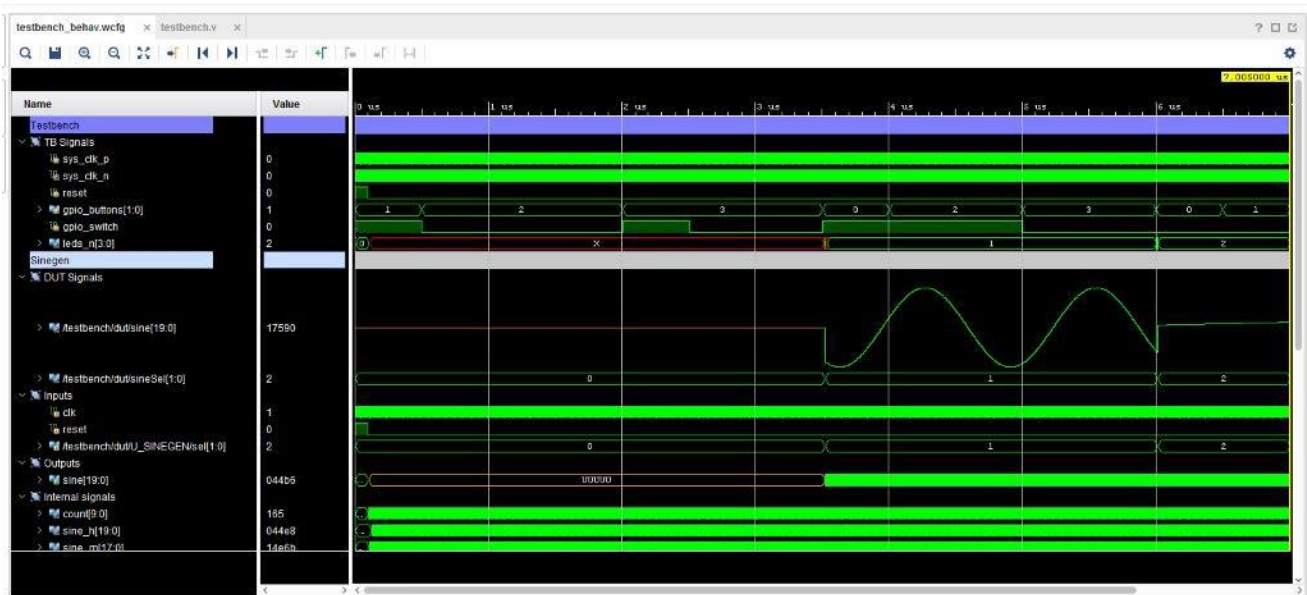

Figure 24: Simulation Waveform at Time 7005 ns
3. After the simulation is complete, click the **Zoom Fit** button  to see the whole simulation timeline in the Waveform window. Figure 24 shows the current simulation results.